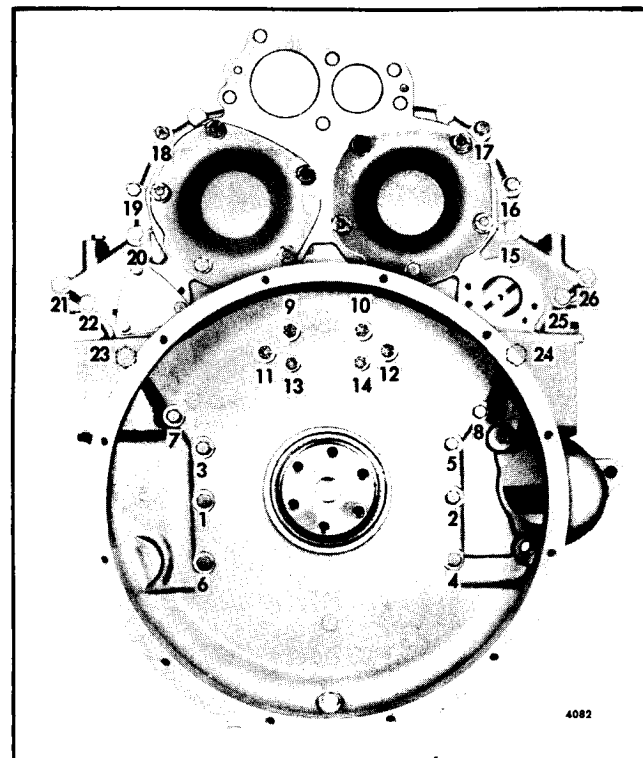

Fig. 7 - Flywheel Housing Bolt Tightening Sequence (Operation 2)--6V Engine
10. Refer to Fig. 7 or 8 for the final bolt tightening sequence for V engines. Then start at No. 1 and tighten the bolts to the specified torque. Tighten the 5/16"-18 bolts (numbers 13 and 14) to 19-23 lb-ft (26-31 Nm) torque and the 3/8"-16 bolts (numbers 9 through 12) to 40-45 lb-ft (54-61 Nm) torque. Tighten the remaining 3/8"-16 and 3/8"-24 bolts to 25-30 lb-ft (34-41 Nm) torque. Be sure to rotate the crankshaft when tightening the idler gear hub bolts and flywheel housing bell bolt on an 8V engine.